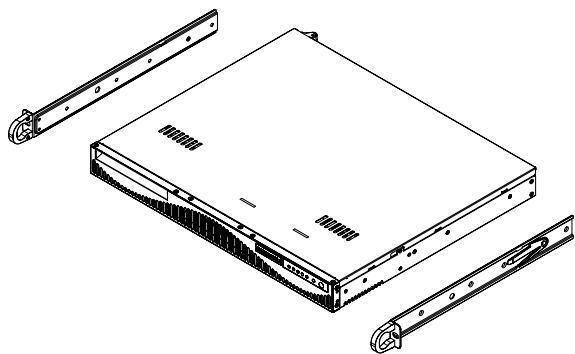

Figure 2-2. Installing the Chassis Rails
4. Screw the rail securely to the side of the chassis (see Figure 2-2). Repeat this procedure for the other rail on the other side of the chassis. You will also need to attach the rail brackets when installing into a telco rack.